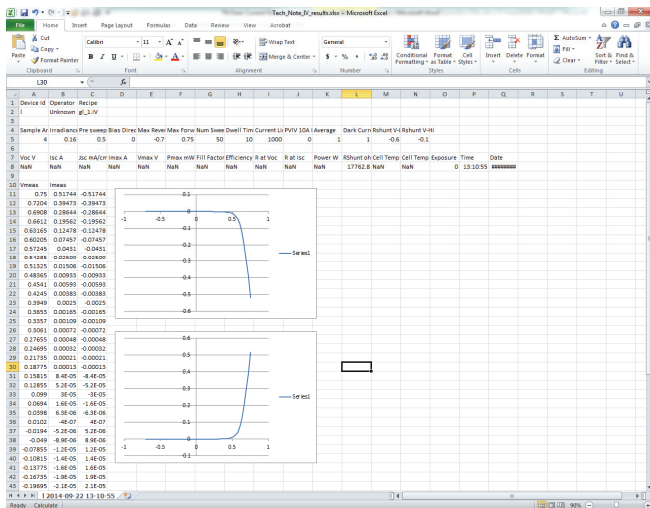

Figure 5: Example Text File Imported to Excel
- In Figure 5, beginning on row 11, the raw IV data is listed.